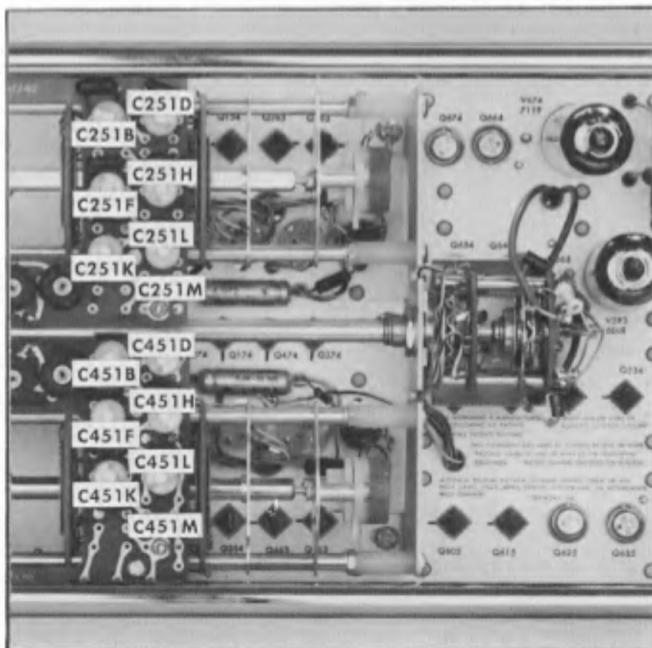

Fig. 2-15. Location of the .1 mVOLTS or 10 mVOLTS/DIV Deflection Factor High Frequency Compensation adjustments.
c. Adjust CH 1 compensation capacitors (using Table 2-4 and Fig. 2-15) of the right-hand Type 3A3 for a lissajous pattern that approaches a straight line. See Figs. 2-16 and 2-17. This adjusts CH 1 of the right-hand unit to CH 1 of the left-hand unit.
e. Adjust CH 2 compensation capacitors (using Table 2-4 and Fig. 2-15) of the right hand unit for a lissajous pattern that approaches a straight line. Leave the left hand unit VOLTS/DIV selector at 100 mV. Add attenuators to the input of the right hand unit as required.